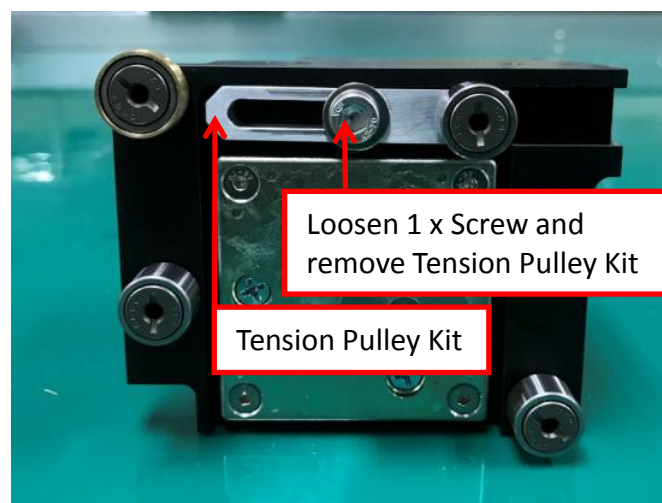
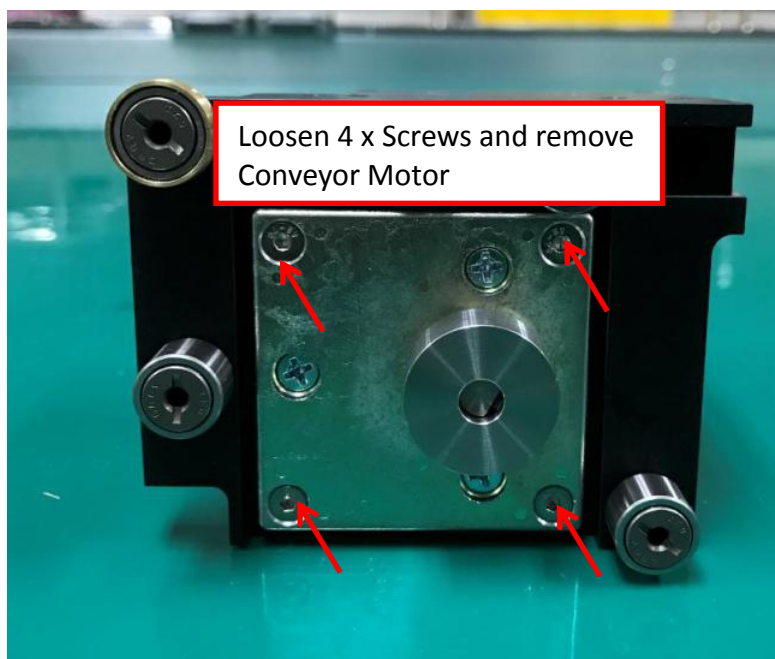

Figure 5 Tension Pulley Kit
Figure 7 Conveyor Motor Removal
5. Loosen 1 x Screw from Tension Pulley Kit as Figure 5. Remove Tension Pulley Kit & Conveyor Motor as shown in Figure 5 to Figure 7
Remarks : Re-use item in Figure 5 ~ 7 upon replacement